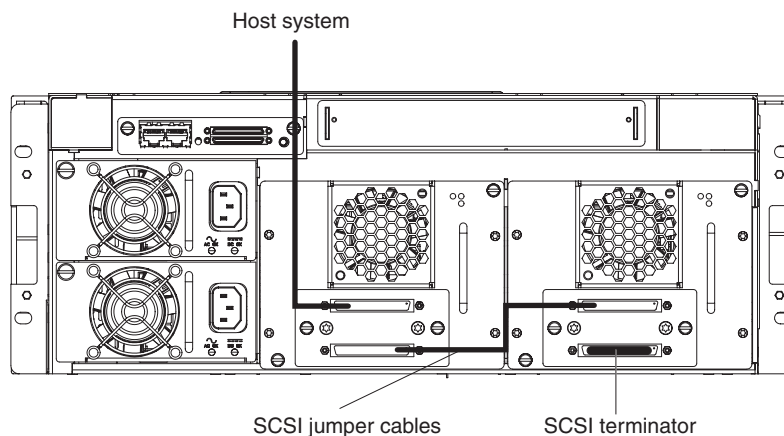

Figure 19. Removing a power supply
4. Pull the power supply out of the library chassis as shown in Figure 19 on page 44.